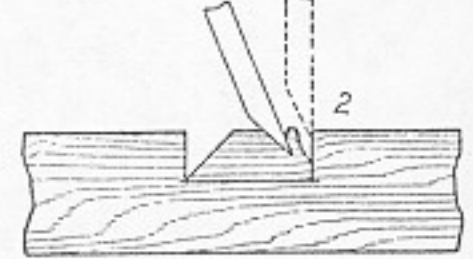

Fig. 185. Finishing gain with router plane.
6. The rabbet is now cut to depth with a chisel. The bevel of the chisel is held down and it is driven into the end wood with light blows of a mallet. Cutting is begun well above the depth line (Fig. 177). It is finished by chiseling across the grain, holding the chisel bevel side up (Fig. 178; also Fig. 140). A router plane also may be used if one side of it is held firmly against the face of the wood (Fig. 185).
7. The wood between the saw cuts is removed by chiseling across the grain, bevel down. Chiseling is done from both edges toward the middle to avoid splitting the wood (Chiseling Operation 51). The dado is finished with a router plane, working from both edges toward the middle (Fig. 185). If several dados are cut at the same time they may all be planed to the same depth with the router plane.
5. When the gain is deep enough, the board is chiseled across the grain with a $\frac{1}{2}$ -in. chisel and finished with a router plane (Fig. 185).